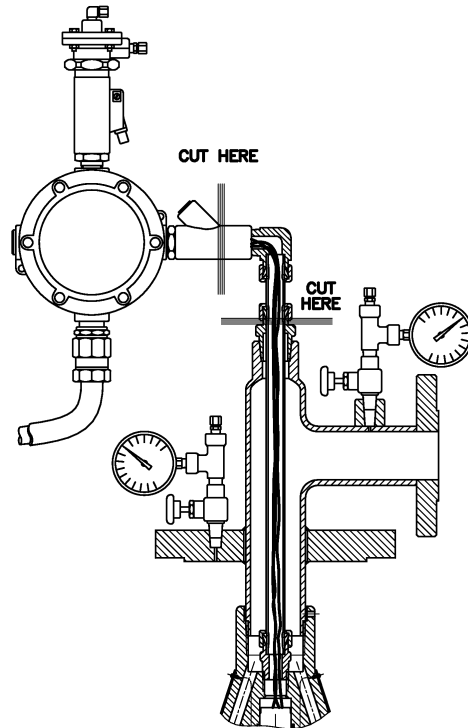

Figure 1
- 5 Cut wire seal (4B) in half with a hacksaw. (refer Figure 1)
- 8 Cut through tube fitting (6C or 7B) (1" M NPT C850540). (refer Figure 1)